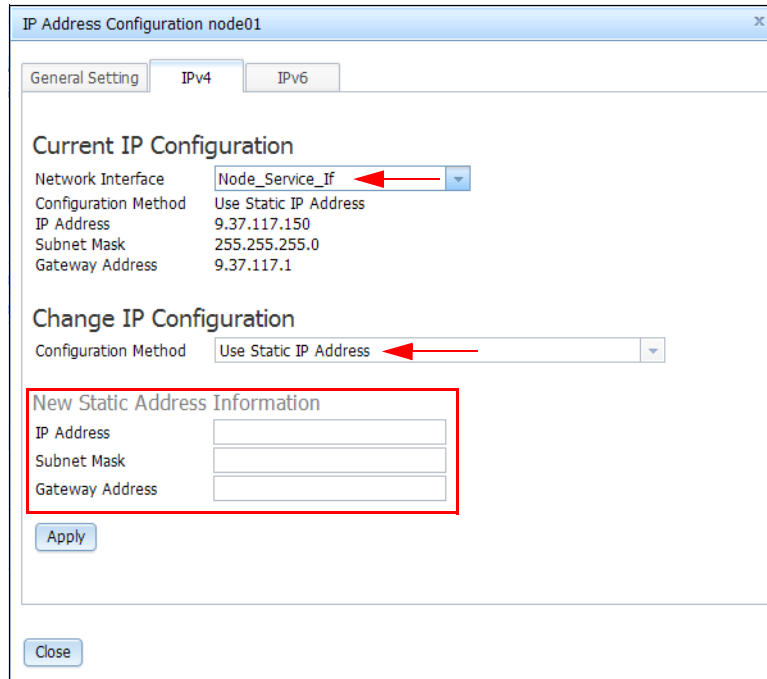

Figure 4-38 Change Service IP by CMM procedure
If the CMM in the chassis is operating and reachable, you can use the CMM to change the Service IP address of a node canister, as shown in Figure 4-38.
4. Select **Node_Service_If** as the Network Interface and select the Configuration Method you want to use. If the selected Configuration Method is to Use Static IP address (as shown in Figure 4-38), type the Static IP address, Subnet Mask, and Gateway address for the New Static IP Configuration.